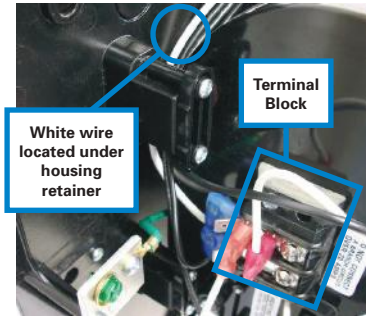
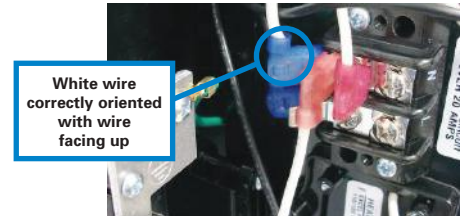

Figure 5
Figure 7
4. Two of the power wires coming from the terminal block must be adjusted in order to reach the Control properly. The **white** wire going from the terminal block to the Control must be unplugged and moved from behind the housing retainer. Simply unplug it from the terminal block, route it from under the housing retainer, reroute it above the housing retainer, and plug it back in so that the flag connector is oriented as illustrated in **Figure 7**. Additionally, be sure the flag connector on the **black** wire going from the terminal block to the Control is oriented the same as the repositioned white wire. Reference **Figures 5 and 6** to see how the black wire should be oriented.